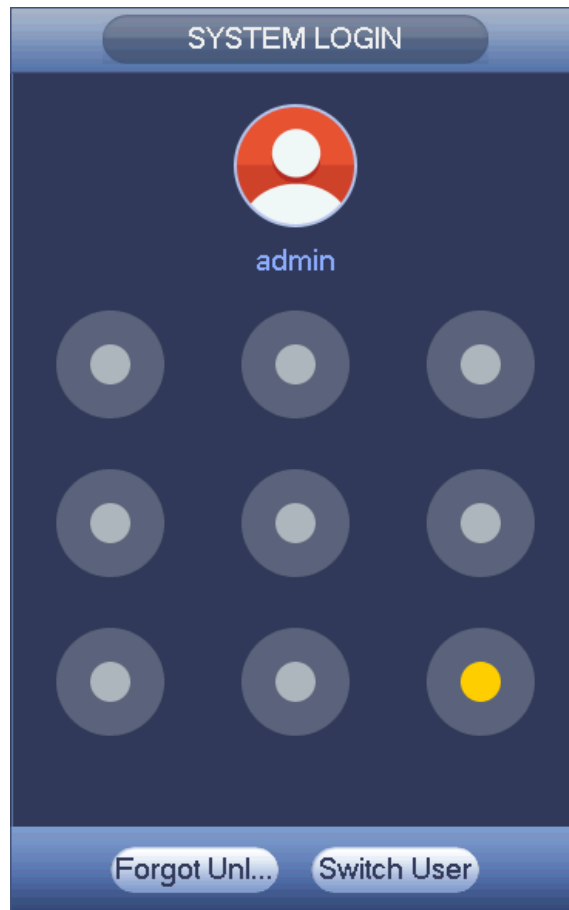
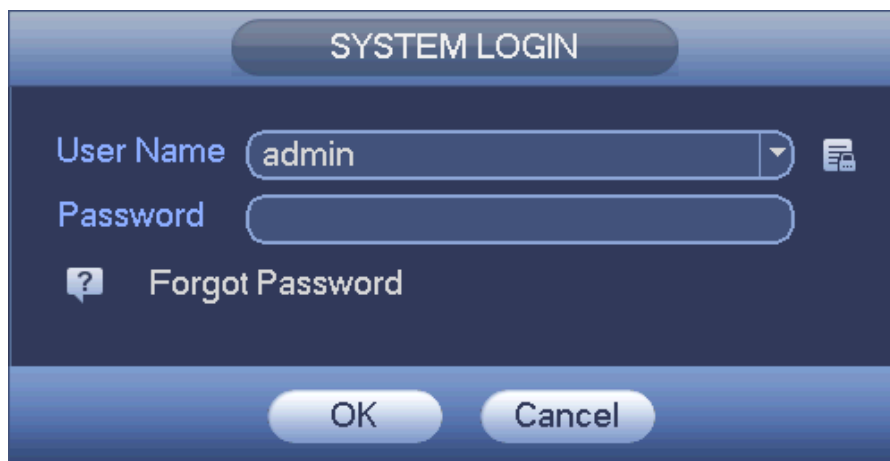

Figure 4-4
Figure 4-5
Step 1 Go to the device login interface. See Figure 4-4 or Figure 4-5. .
- If you have set unlock pattern, device displays unlock pattern login interface. See Figure 4-4. Click “Forgot unlock pattern”, device goes to Figure 4-5.
- If you have not set unlock pattern, device displays password interface. See Figure 4-5.
Click Switch user button in Figure 4-4 or click the user name in Figure 4-5 and then select a user from the dropdown list, you can login via other account.
- Step 2 Click  or click Forgot password on the login interface (Figure 4-5).